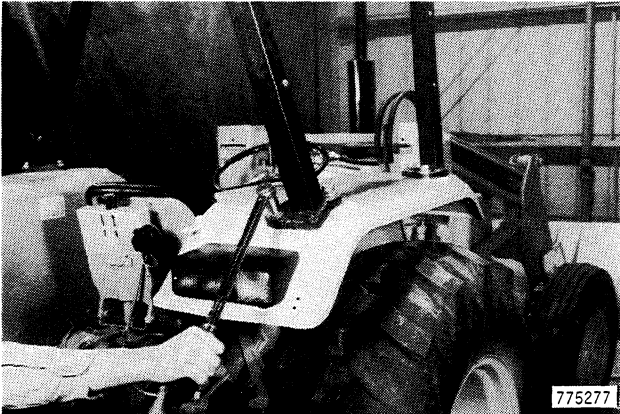

Figure 361
38. Install cap screws, flat washers and lock washers and tighten to 170 foot-pounds (231 N m), Figure 361.